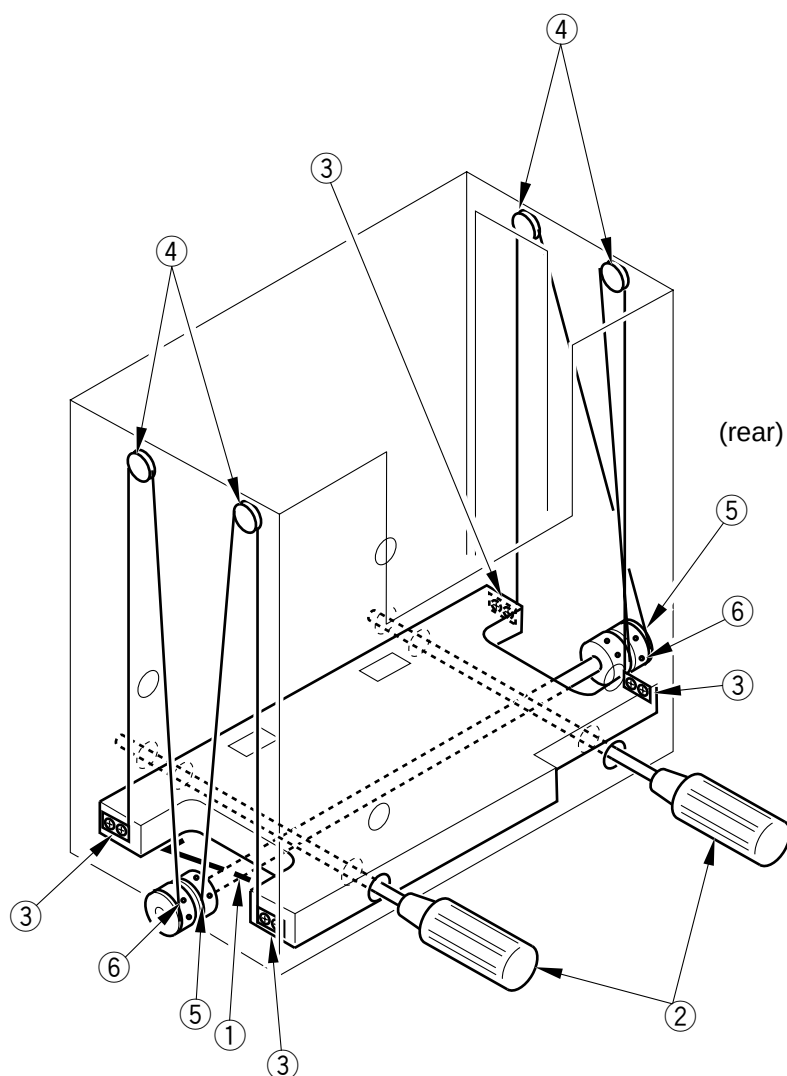

Figure 8-413
- 1) Check to make sure that the lifter drive shaft and the lifter are held in place with hex wrenches and screwdrivers. (① an ② of Figure 8-413)
- 2) Fix the cable fixing plate in place on the lifter with two screws. (③ of Figure 8-413)
- 3) Hook the lifter cable on the pulley. (④ of Figure 8-413)
- 4) Hook the ball of the lifter cable on the lifter drive shaft; then, wind it about 1.5 times along the groove of the pulley. At this time, be sure that the lifter cable is taut until the drivers have been lifted until they stop. (⑤ of Figure 8-413)
- 5) While keeping the spatial relationship, fix the pulley in place to the lifter drive shaft with two set screws. (⑥ of Figure 8-413)